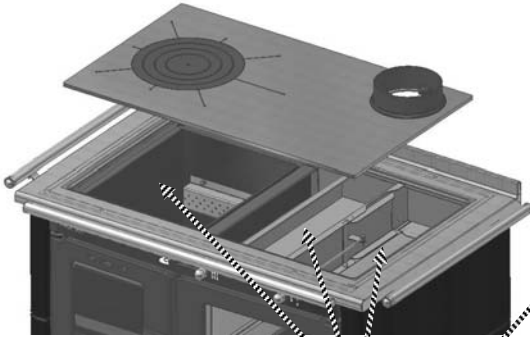

Fig. 8
UPPER FUME CONVEYER CLEANING (Fig.8)
- Take away the upper plate by lifting it upwards (Fig. 8) in this way you access tot o all parts of the fume conveyer which must be cleaned from the residual of the combustion, using the proper tools, (hook poker, brush, shovel, ...)